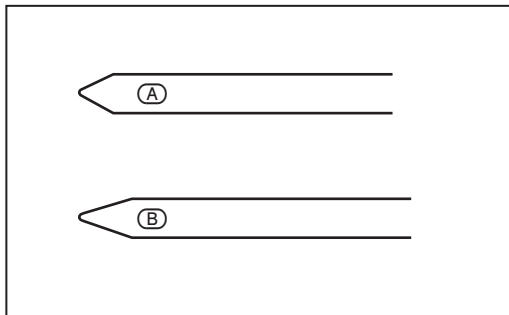

FIG. 11
8.4 TIG WELDER, TUNGSTEN ELECTRODES - SELECTION & PREPARATION – FIG. 11